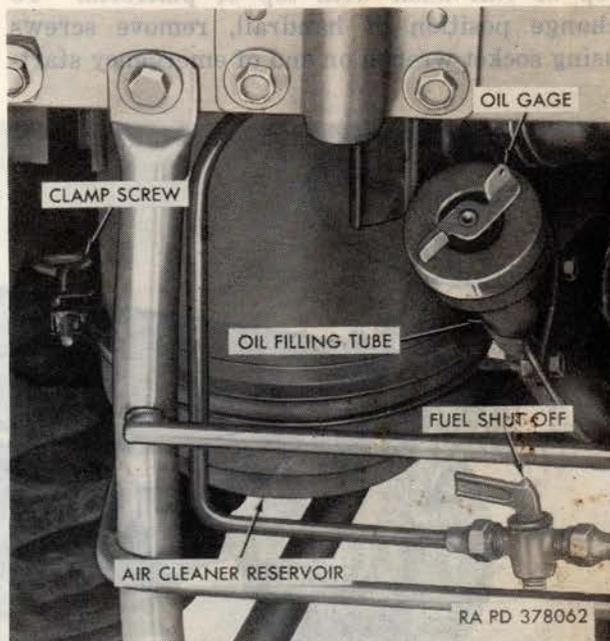

Figure 29. Fuel shutoff, oil gage, and air cleaner.
(fig. 29)
The fuel shutoff is located at rear of vehicle, beneath platform, near left side in front of engine guard tube. The fuel is turned on when the handle is parallel to valve body and tubing, as shown in figure 29. Fuel is shut off when handle is at right angles to valve body.
c. Open the fuel line shutoff valve (fig. 29).